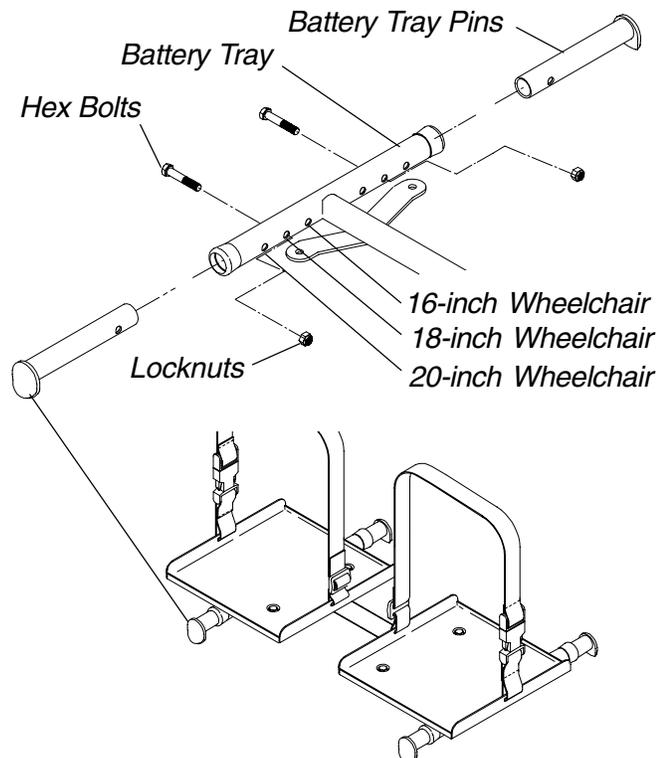

FIGURE 9 - BATTERY TRAY - CHANGING WIDTH OF BATTERY TRAY
### Changing Width of Battery Tray (FIGURE 9)
2. Remove the hex bolt and locknut that secure one (1) of the battery tray pins to the battery tray.
3. Refer to FIGURE 9 to determine the mounting hole in the battery tray that corresponds to the width of the wheelchair.
6. Repeat STEPS 2-5 for the other three (3) battery tray pins.